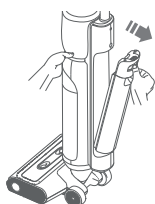

Figure 1
1. Press the release button of the clear water tank gently to remove the tank (Figure. 1)